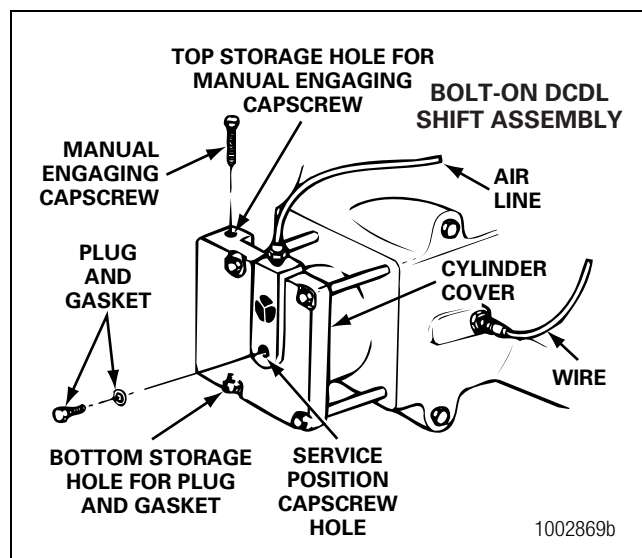

Figure 6.17
1. Install the washer and plug into the hole for the sensor switch. Tighten the plug to 45-55 lb-ft (60-74 N•m). Figure 6.17.
9. Install the manual engaging capscrew into the DCDL storage hole in the bolt-on or the screw-in DCDL assembly. Figure 6.17 and Figure 6.19. The sealing gasket must be under the head of the capscrew.
- A. On a bolt-on DCDL shift assembly, remove the short plug and gasket from the storage hole of the DCDL. Install the short plug and gasket into the service position hole in the center of the DCDL. Figure 6.17.